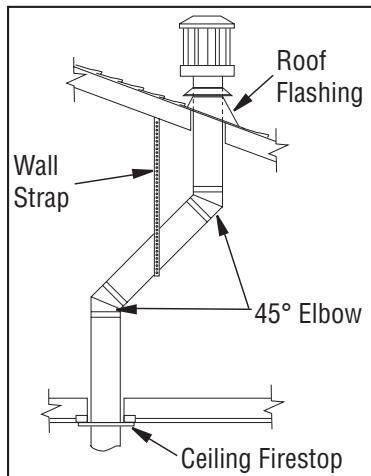

Figure 17 - Offset with Wall Strap and 45° Elbows
- Determine route your vertical venting will take. If ceiling joists, roof rafters or other framing will obstruct venting system, consider an offset (see **Figure 17**) to avoid cutting load bearing members. **NOTE:** Pay special attention to these installation instructions for required clearances (air space) to combustibles when passing through ceilings, walls, roofs, enclosures, attic rafters, etc. Do not pack air spaces with insulation. Also note maximum vertical rise of venting system and any maximum horizontal offset limitations.
NOTE: If an offset is needed to avoid obstructions, you must support vent pipe every 3 feet. Use wall straps for this purpose (see **Figure 17**). Whenever possible, use 45° elbows instead of 90° elbows. The 45° elbow offers less restriction to the flow of flue gases.
- Place flashing over pipe section(s) extending through roof. Secure base of flashing to roof and framing with roofing nails. Be sure roofing material overlaps top edge of flashing as shown in **Figure 17**. There must be a 1" clearance from vent pipe to combustible materials.